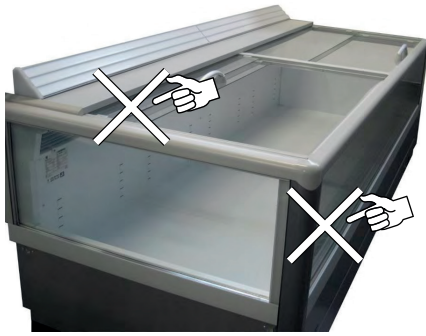

Fig. 12
- The goods do not obstruct the correct flow of refrigerated air ("Fig. 12").